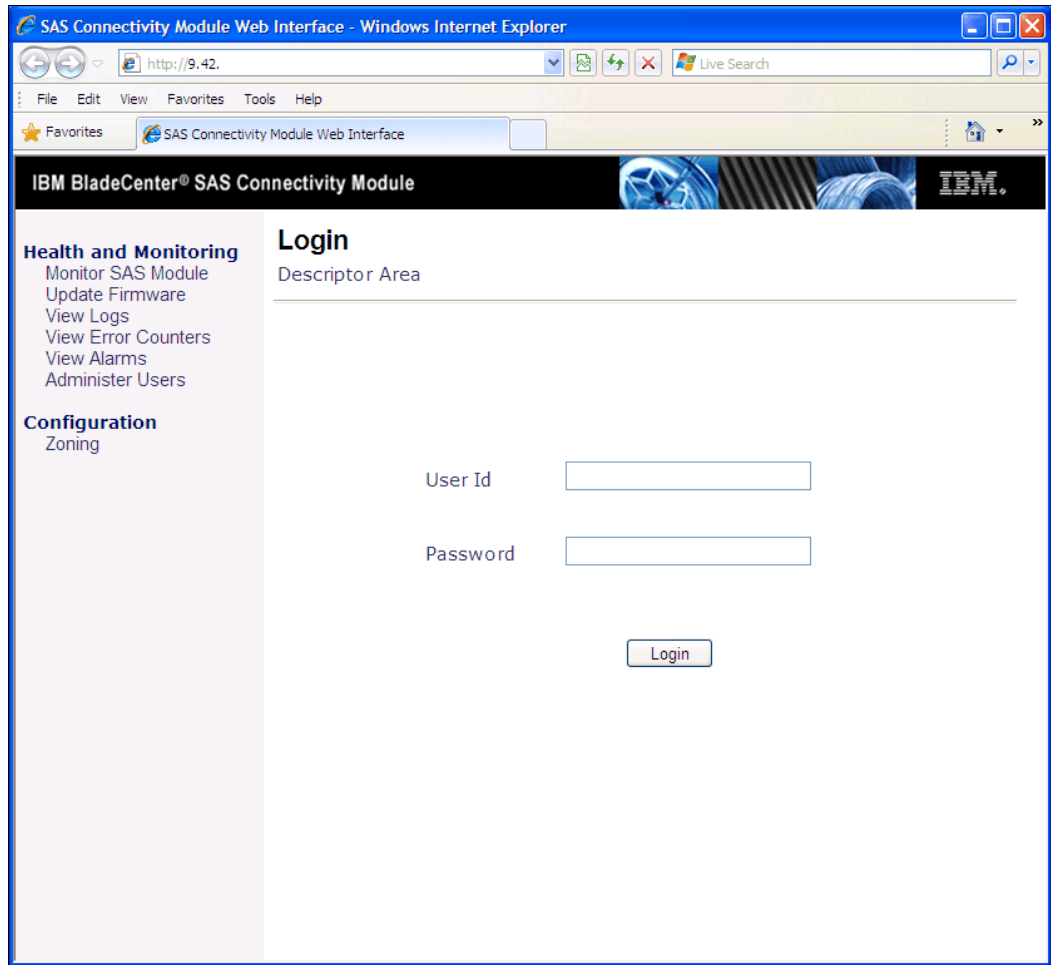

Figure 16-7 SAS Connectivity Module - login
1. Log on to the SAS Connectivity Module by using the web interface with the IP address that is defined for the connectivity module in the BladeCenter Advance Management Module (AMM), as shown in Figure 16-7. Use USERID as the user ID and PASSWORD as the password. (0 in PASSWORD means null). You can change the password under the Administer Users menu option after you are logged on.